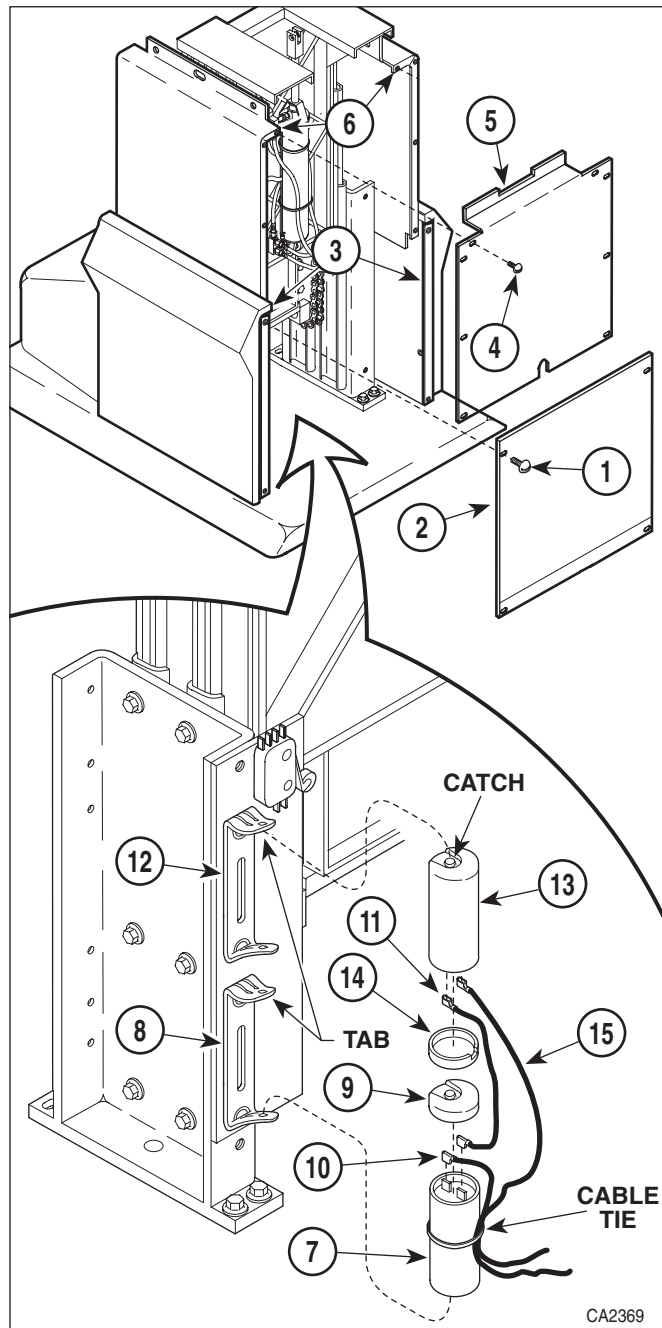

Figure 4-27. Capacitors Removal / Installation
- (1) If possible, raise FOOT UP function all the way up.
- (2) Unplug table power cord from outlet.
- (3) Remove four screws (1, Figure 4-27) and front outer shroud (2) from left and right hand outer shrouds (3).
- (4) If necessary to gain access to capacitors, remove eight screws (4) and front inner shroud (5) from left and right hand inner shrouds (6).
- (5) Cut cable tie securing wires to capacitor (7).
- (6) Using a screwdriver, pry tab of capacitor mounting bracket (8) upward and remove capacitor (7) from capacitor mounting bracket.
- (7) Remove capacitor cap (9) from capacitor (7).